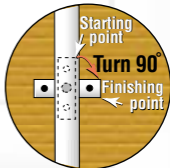

Fig. 2
- Adjust the fixing brackets from the vertical position to a horizontal position (90° turn) by loosening the bolt attaching the bracket to Fire Escape. After this procedure is implemented, fully re-tighten the attaching bolt (Fig.2).